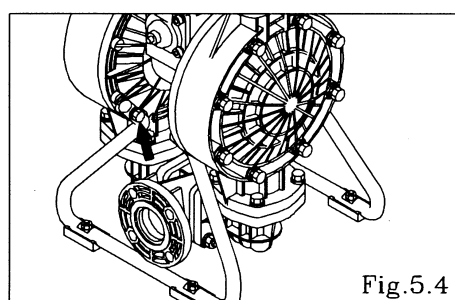

Fig.5.4
- Remove the 8 (4 on the DP-40-HD) retainer bolts from the stand body, and remove the stand body. [Fig.5.4]